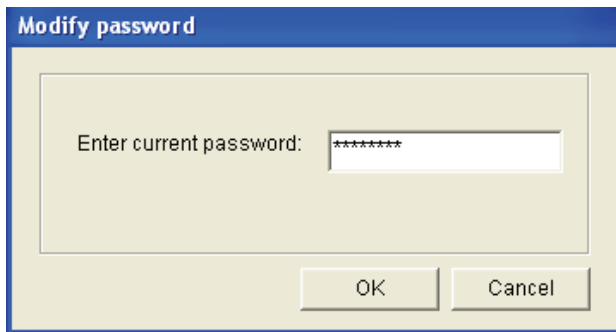

figure 8.21: Enter password window
- 1 From the main menu, click the Modify password button. The following window will appear (see figure 8.21).